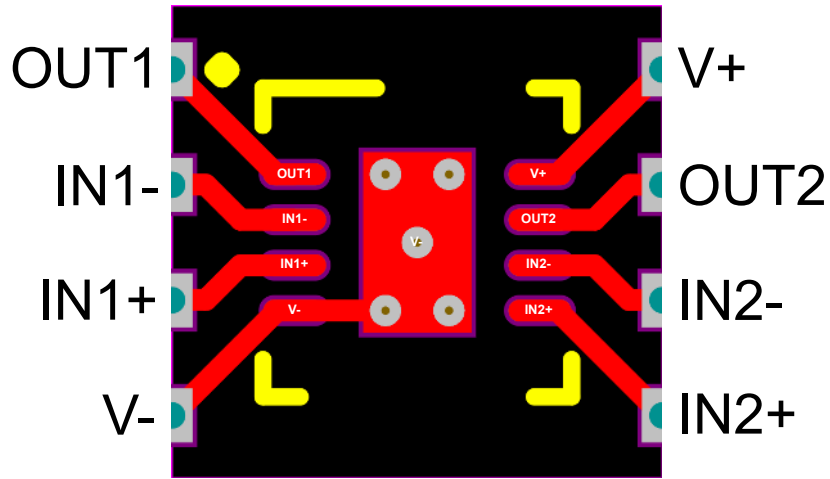
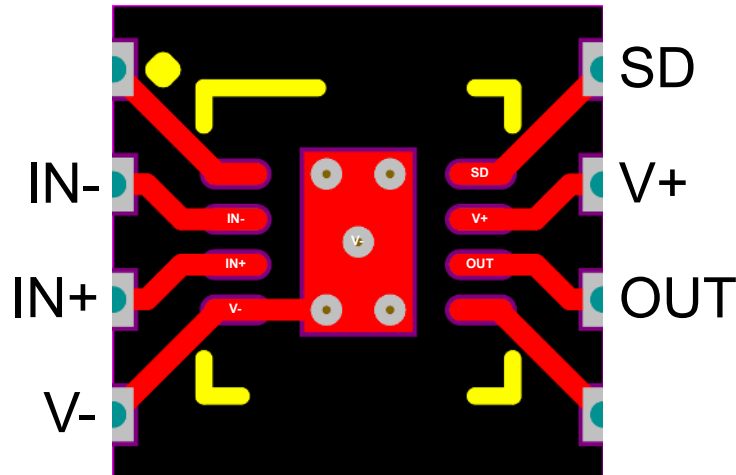

Figure 3-5. Dual SOIC to WSON (DRG)
Figure 3-6. Single SOIC to WSON (DRG)
The WSON (DRG) board can be used to adapt a dual-channel WSON (DRG) device to dual-channel SOIC footprint and a single-channel WSON (DRG) device to single-channel SOIC footprint, as shown in Figure 3-5 and Figure 3-6. For single-channel WSON (DRG) devices, both the shutdown (SD) and non-shutdown variants are supported.